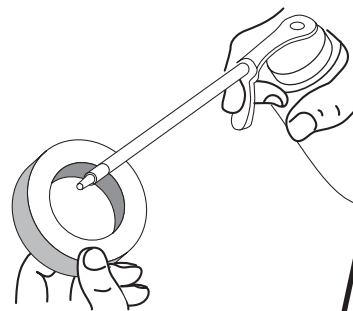

FIGURE 24
4. Apply enough clean SAE 30 oil to lightly coat the filter, Figure 24.